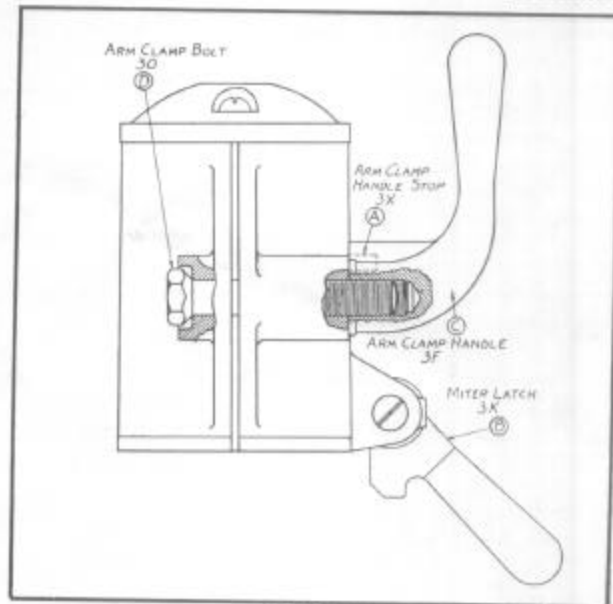

FIGURE 11
The arm clamp handle rigidly holds arm in position for straight or miter cuts. When tightened in position the arm clamp handle should be upright as shown in Figure 11 (C). If this becomes worn so that it goes beyond the vertical position . . . you relocate it. See Figure 11.
1. Remove arm clamp handle stop (A) and lift miter latch (B) upward against side of arm.
2. Unwind arm clamp handle (C) by turning it